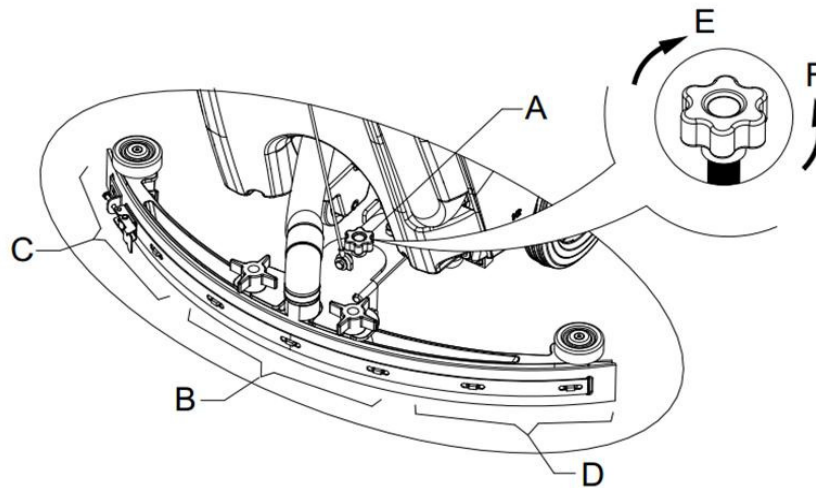

Figure 9
8. Adjust the squeegee through the adjusting handle (A) of the squeegee (Figure 9).